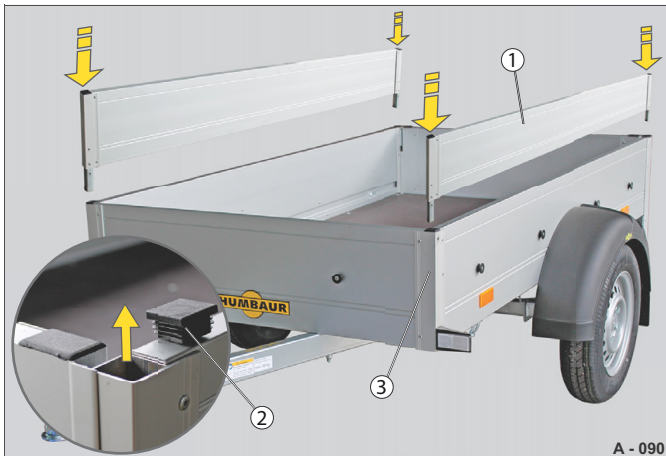

Fig. 25 Fitting side wall extensions on side
- Remove the lamellar plugs (Fig. 25 /2) from the stanchions.
- Plug the side wall extension on the side (Fig. 25 /1) into the stanchions (Fig. 25 /3) on the base drop side.